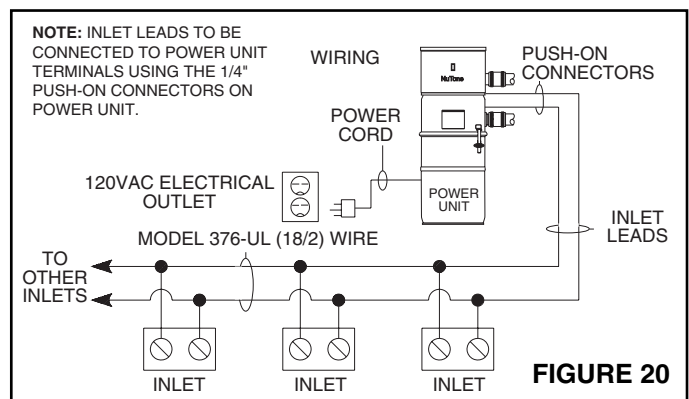

FIGURE 20
6. **Refer to Figure 20 on page 7.** Run low voltage wiring and secure wiring to tubing. Leave approximately 6" of wire for connection to each inlet.
### WIRING See Figure 20.